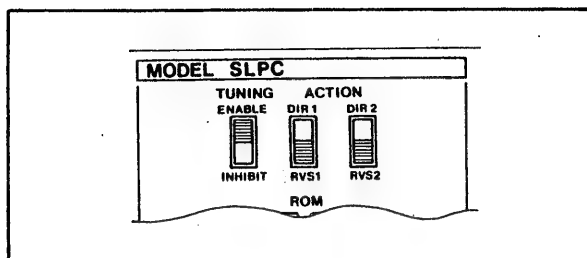

Figure 5-2-5. Setting Select Switches.
(2) Setting the tuning board (See Figure 5-2-5.)